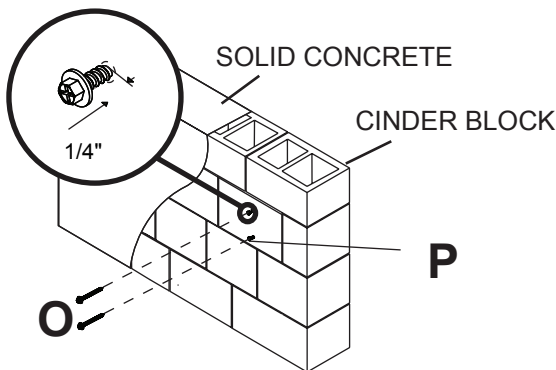

Figure 5.3
5 Place wall plate (B) on wall as a template. Level, and mark the center of the three mounting holes. Drill three 5/16" (8 mm) dia. holes to a minimum depth of 2.5" (64 mm). Insert anchors (P) in holes flush with wall as shown. Fasten two #14 x 2.5" wood screws (O) leaving 1/4" of thread exposed as shown in Figure 5.3. Hook wall plate (A) onto exposed #14 x 2.5" wood screws (O). Secure using one #14 x 2.5" wood screws (O) as shown in figure 5.4.